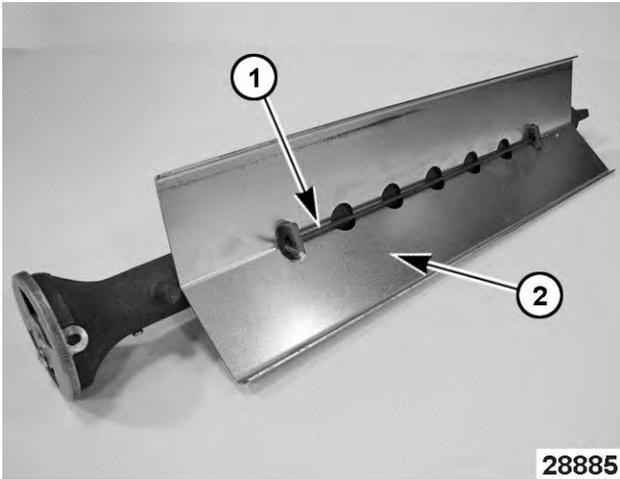

Fig. 70
5. Remove burner rod (1, Fig. 70) securing deflector (2, Fig. 70) to burner.